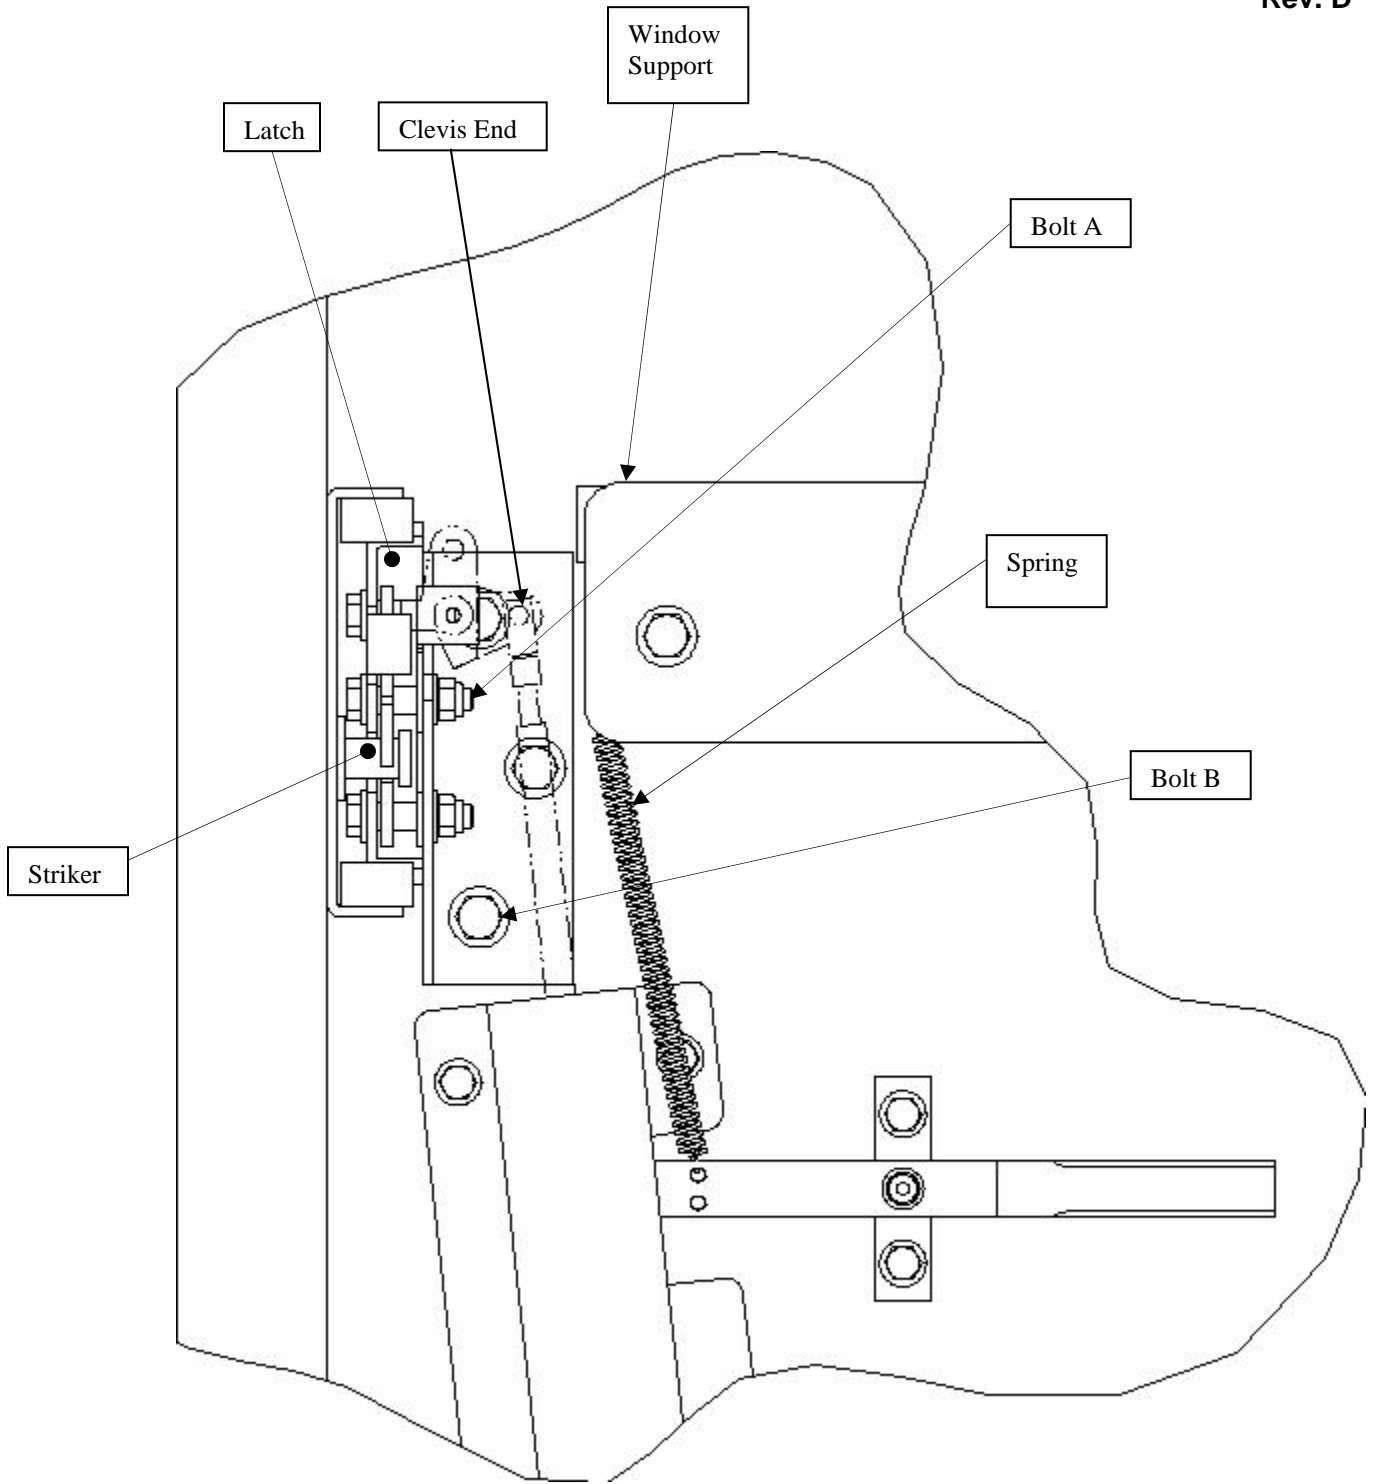

Figure 3-80. Door Adjustment.
4. Adjust door as follows (see Figure 3-80):
The object of this door adjustment procedure is to center the door striker in the latching mechanism. The latch can be centered in up / down direction by loosening Bolts A, as shown in Figure 3-80. The latch can be centered in the fore / aft direction by loosening Bolts B, as shown in Figure 3-80. The latch may also be shimmed out from the door skin by adding more washers between the latch and door for each of the bolts labeled "B". This can help to prevent or fix a problem with the door sticking.
- b. Loosen Bolts A (as shown in Figure 3-80) and adjust latching mechanism as required to center striker in the latching mechanism.
- c. Torque Bolts A (as shown in Figure 3-80) to 18 lb-ft.
- d. Loosen Bolts B as shown in Figure 3-80) and adjust latching mechanism as required to center striker in the latching mechanism.
- e. Torque Bolts B (as shown in Figure 3-80) to 35 lb-ft.